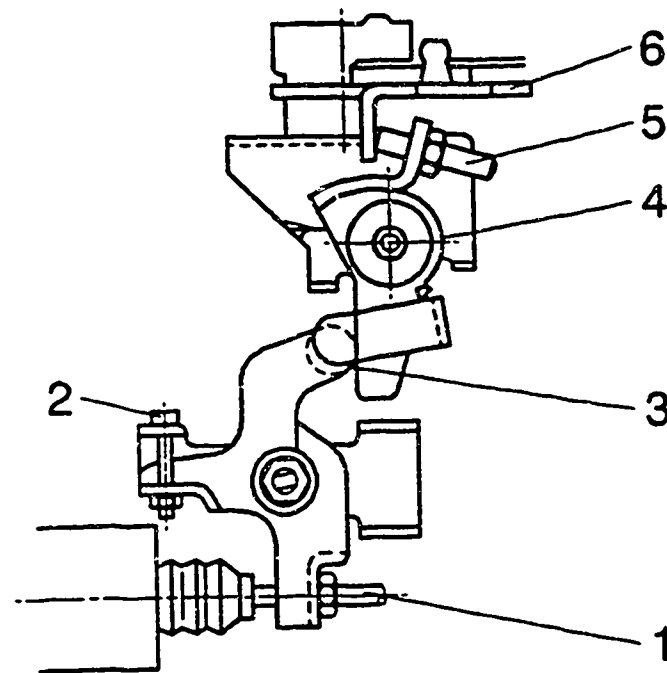

Fig. 34
1. Timer stroke adjustment (Fig. 34)